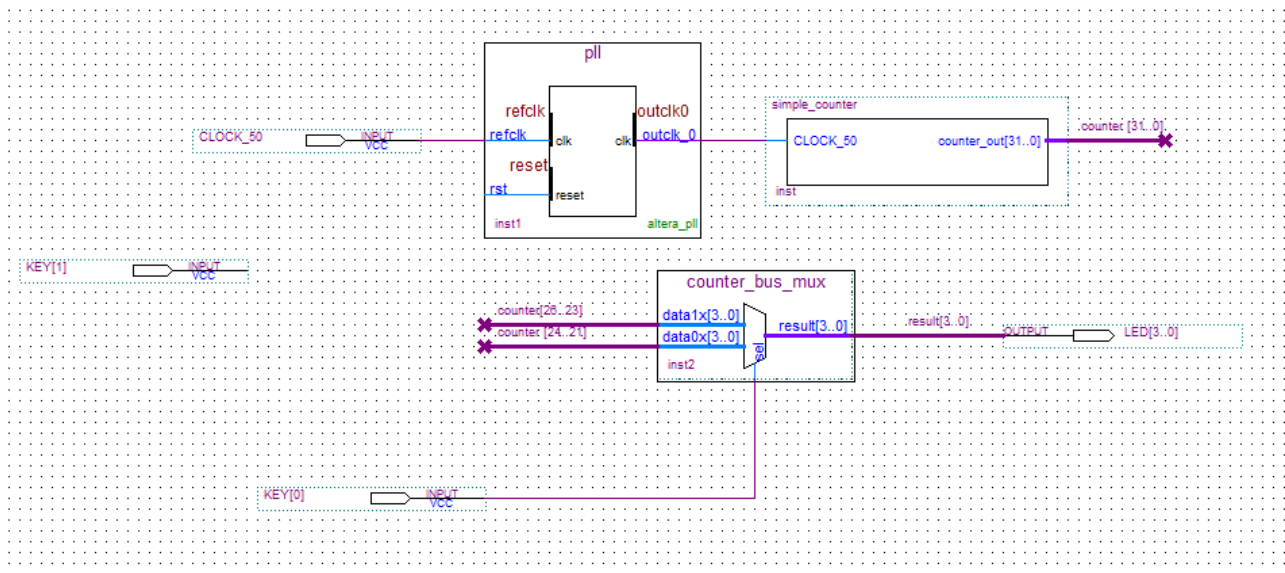

Figure 3-28 Adding the KEY [1:0] Input Pin
23. Place another input pin at the left of the pll and rename it as KEY[1] (see **Figure 3-28**).